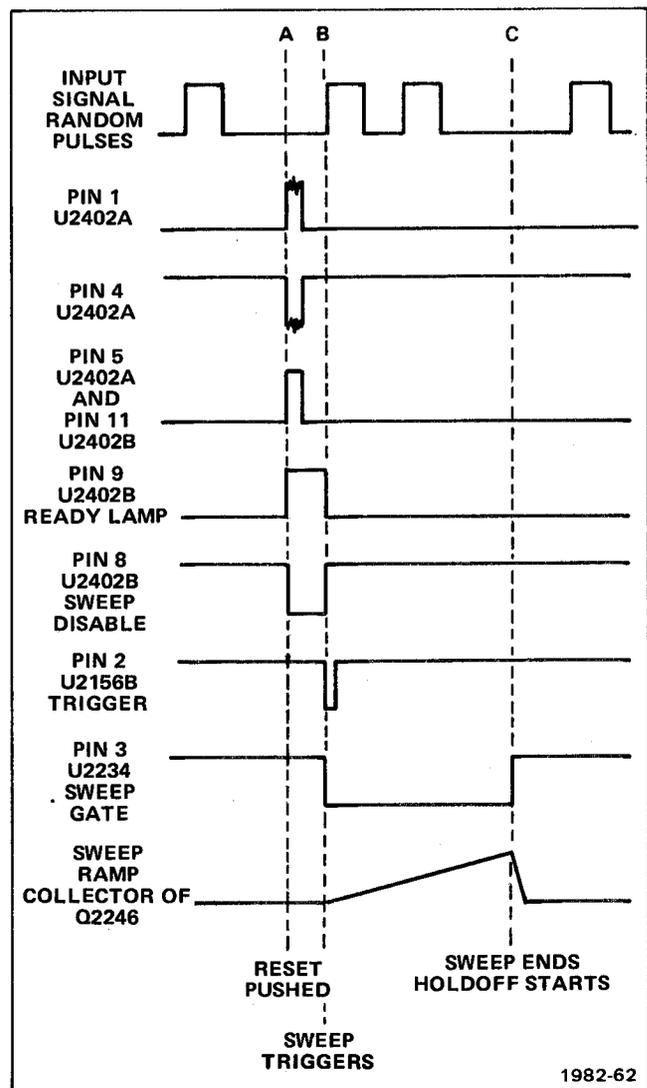

Fig. 7-3. Timing diagram of signals generated during a single-sweep display.
To operate in the Single Sweep mode, S2400B is set to SINGLE SWEEP. This applies the signal from U2402B to pin 2 of U2156A (see diagram 5) via P2412 pin 3. Pin 8 of U2402B now controls the ability of the Trigger Generator to supply a trigger signal to the Sweep Generator. Fig. 7-3 shows a timing diagram of the signals generated during a single sweep display.
1. S2400B is in the SINGLE SWEEP position. Before time A (see Fig. 7-3) pin 8 of U2402B is HI clamping pin 2 of U2156A HI.